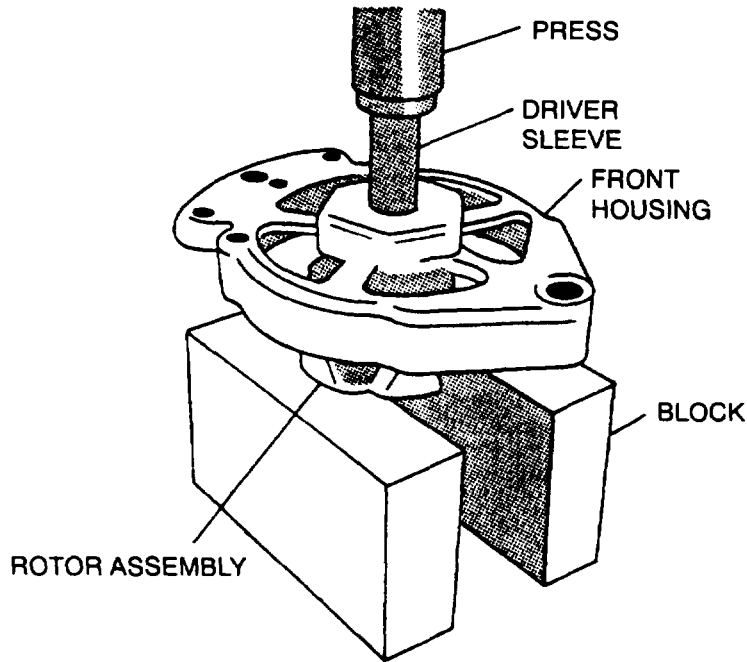

Figure 4-8. Assembling Front Housing to Rotor
- c. Using arbor press, press front housing (29) over rotor assembly (28) until inner bearing race contacts shoulder on shaft, refer to Figure 4-8.